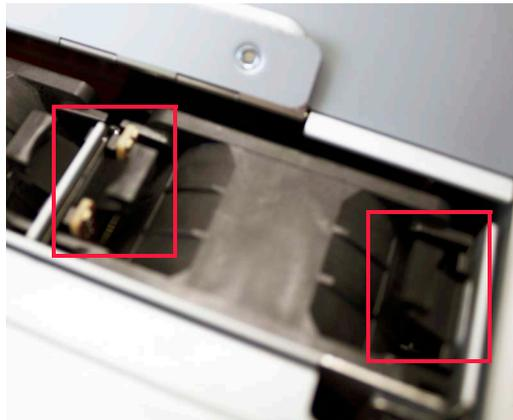

Figure 8.17 Fan module locking tabs
4. Squeeze the locking tab on each side of the defective fan module. The locking tabs are shown in Figure 8.17.